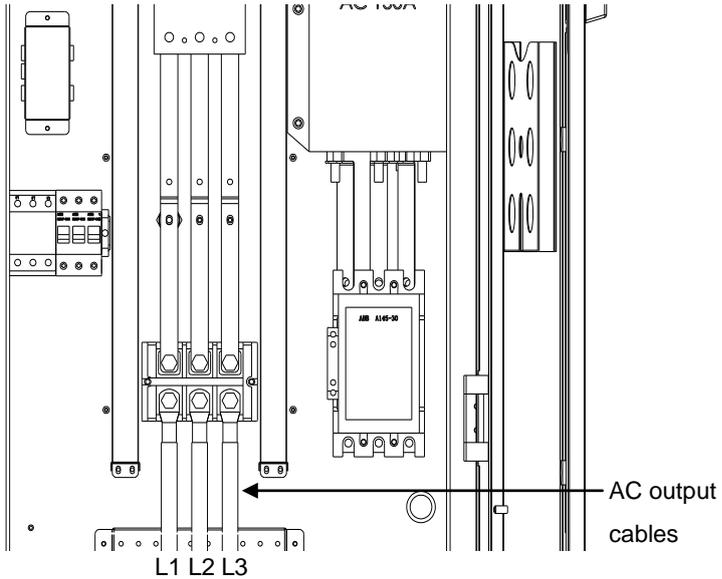

Figure 3-18 AC output connection
(2) Connect the power grid A, B, C cables to the L1, L2, and L3 terminals of the inverter, as shown in Figure 3-18: